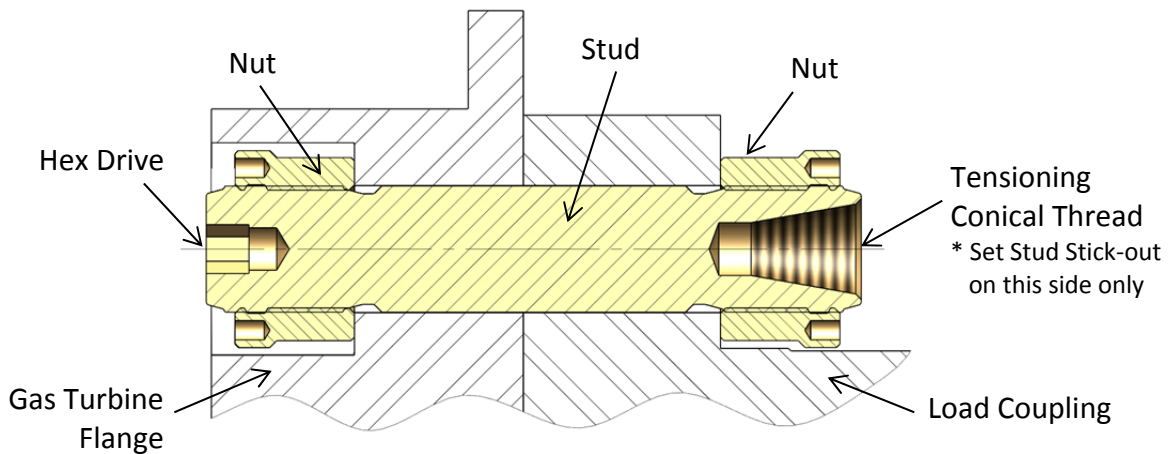

Figure 6A – Cross-section View of Gas Turbine to Load Coupling Bolted Flange Connection
- Slide the stud and cylindrical nut assembly into the flange as shown in Figures 6A and 6B.